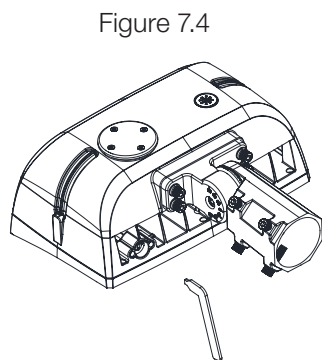

Figure 7.4
STEP 1: Take the lamp out of the packing box, take out the handle configured in the packing box, and insert it into the slot of the knob; (Figure 7.4).